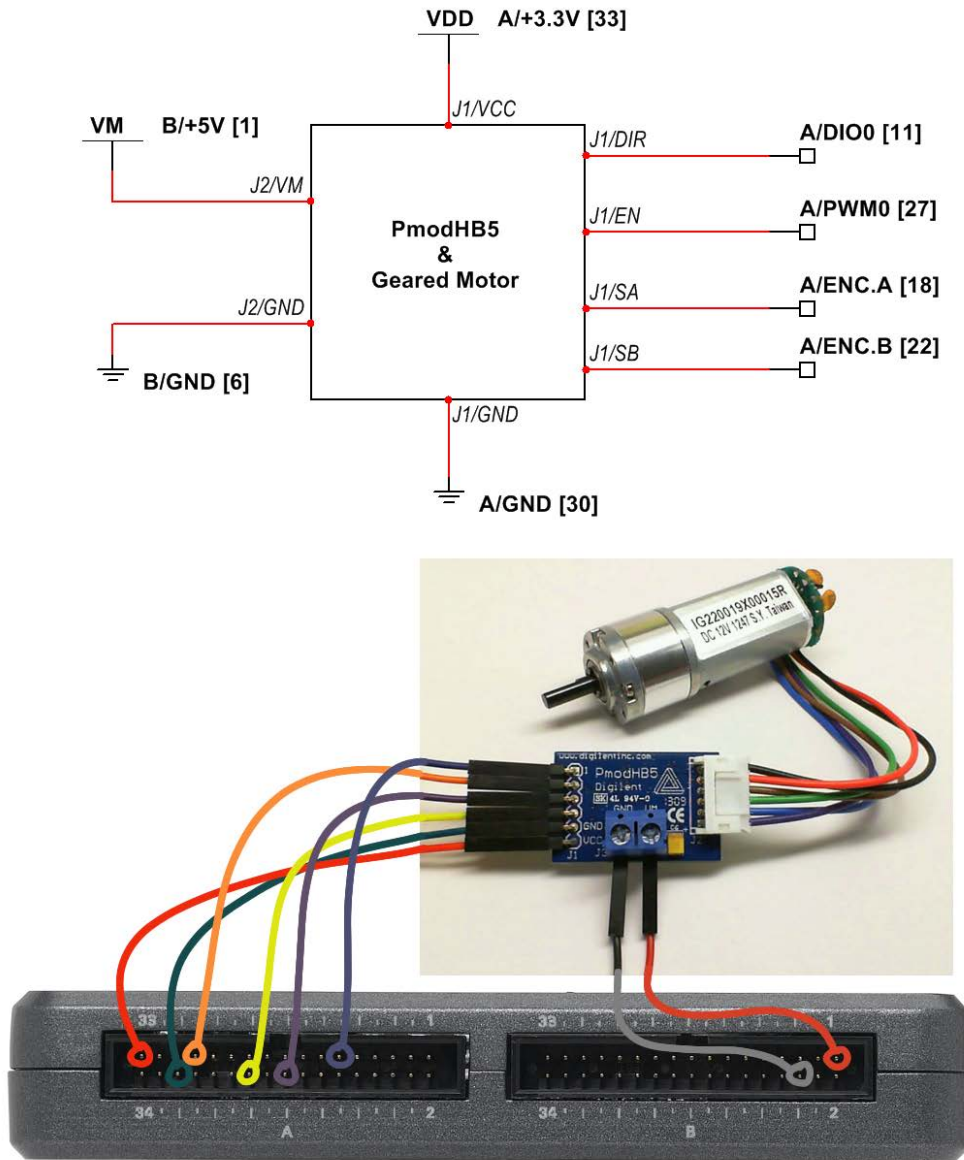

Figure 35.2: Demonstration circuit for H-bridge and geared motor: schematic diagram and connection to NI myRIO MXP Connectors A and B.
**Build the interface circuit:** Refer to the schematic diagram shown in Figure 35.2 on the facing page; the H-bridge and geared motor requires six connections to NI myRIO MXP Connector A and two connections to MXP Connector B (see Figure A.1 on page 233):